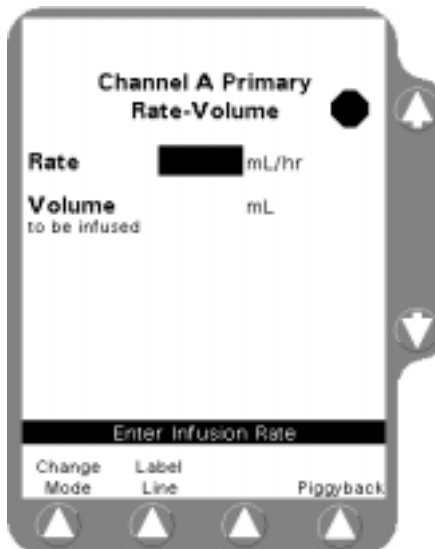

Figure 5-17 Primary Programming Screen
1. If the pump channel is running, press the **STOP** key to stop the pump channel. Press the **Channel Select** key to access the Primary Programming screen (Figure 5-17).